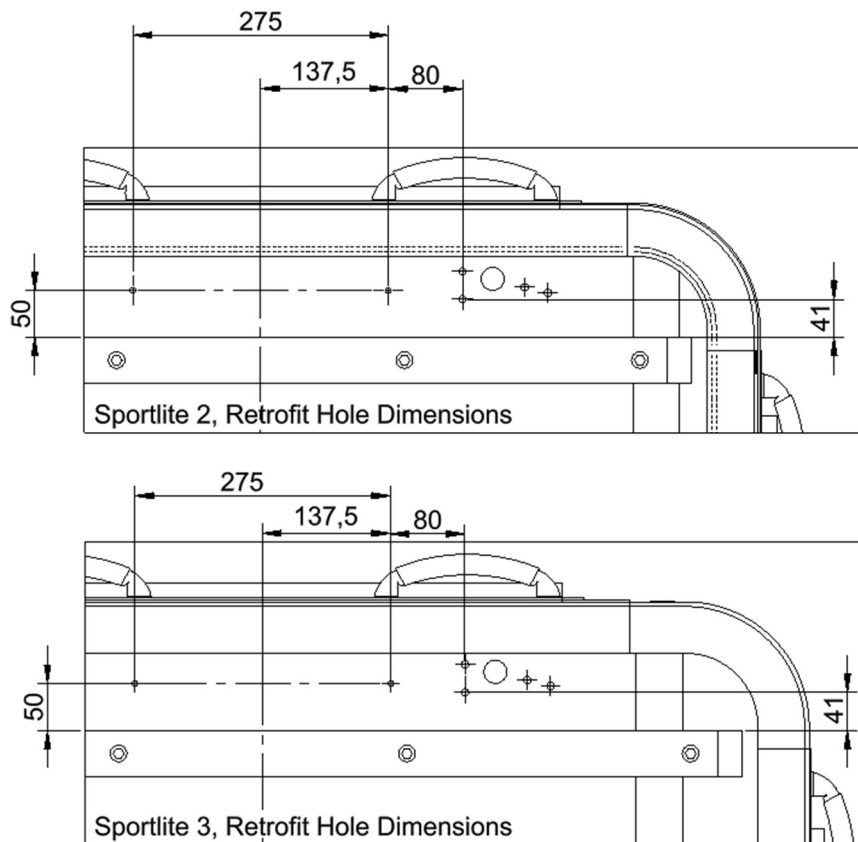

Figure 1 - shows the position of the holes for one corner of the basket.
1. On the outside of the basket floor, mark the position of the holes for the Runners (Item 15), the location of which can be seen in Figure 1. Mirror this on the other side.
5. Mark the position of the holes shown in Figure 1 for the Strengthening Plate (Item 14).